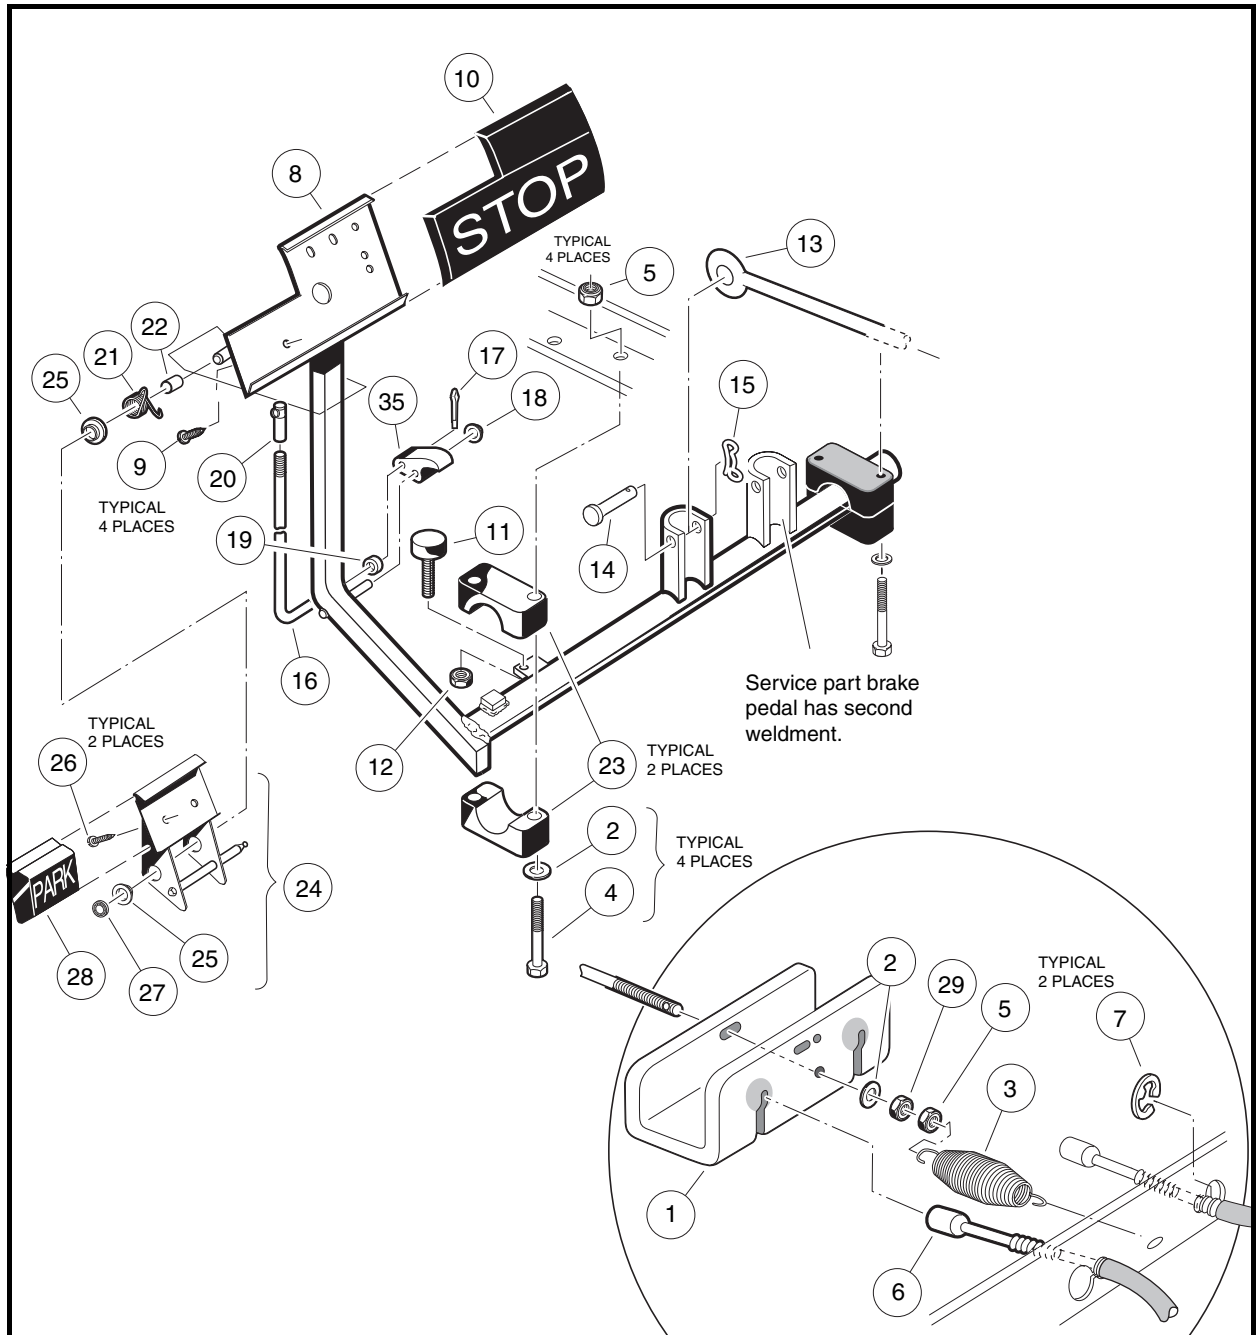
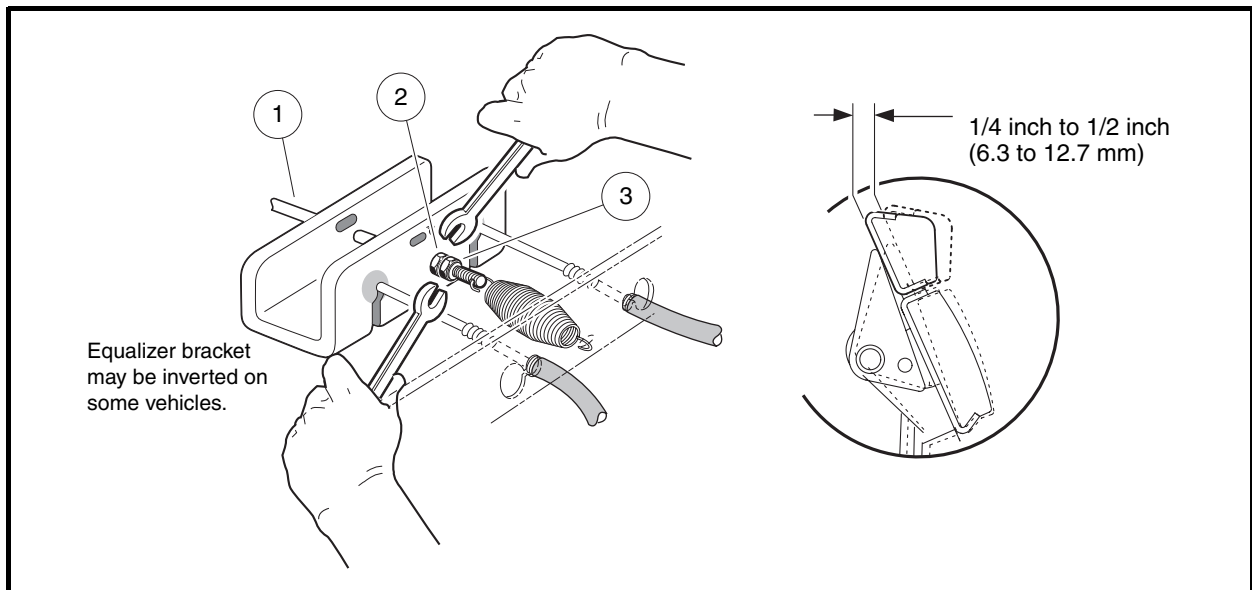

Figure 5-1 Brake and Park Brake Pedal Assembly
Figure 5-2 Brake Pedal Free-Play Adjustment
- 3.1. Disconnect the equalizer rod (13) from the pedal shaft by removing the clevis pin (14) and bow-tie pin (15) (**Figure 5-1, Page 5-2**).
1. From the top side of the floorboard, insert the brake pedal assembly through the opening in the floor, and install the brake pedal stop bumper (11) on the brake pedal assembly (**Figure 5-1, Page 5-2**). Do not tighten the jam nut (12) at this time.
2. Secure the equalizer rod (13) to the brake pedal assembly (8) with the clevis pin (14) and bow-tie pin (15) as shown.
3. Position and attach brake pedal assembly, mounting blocks (23) and washers (2) to vehicle frame as shown. Tighten the bolts and nuts to 113 in-lb (12.8 N·m).
4. Tighten the nut (2) on the equalizer rod (1) so that brake pedal free-play is 1/4 inch to 1/2 inch (6 mm to 13 mm) (**Figure 5-2, Page 5-3**). **See following NOTE.**
5. Tighten the jam nut (3) while holding the adjustment nut (2) in the correct position (**Figure 5-2, Page 5-3**).
- 3.1. To remove the park brake rod and pawl assembly (16 through 19 and 35), remove the push nut (18) and disconnect the ball joint sleeve (20) from the park brake pedal (24) (**Figure 5-1, Page 5-2**). **See**